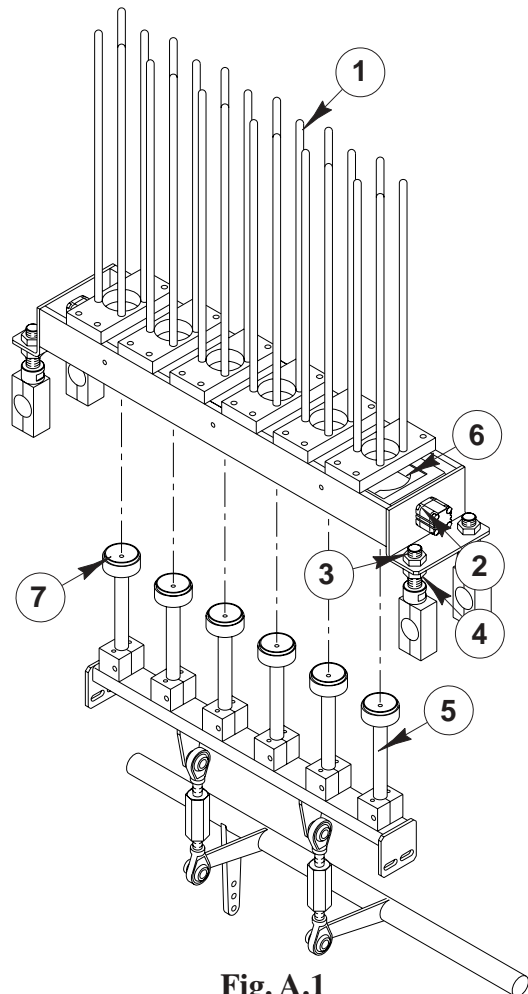

Fig. A.1
The bulk container feeders (*Fig. A.1*), assembled at the end of the machine, serve to deposit bulk containers into the slots in synchrony with the movement of the trays.
The feeder is composed of magazines (*Pos. 1, Fig. A.1*) into which containers must be loaded manually, and of a bulk container dispenser operated by pneumatic cylinders (*Pos. 2, Fig. A.1*).
- By slackening the lock nuts (*Pos. 7, Fig. A.1*) and adjusting the knob (*Pos. 3, Fig. A.1*) you may adjust the height of the magazine holder frame (*Pos. 1, Fig. A.1*); the suction cup trolley's stroke is invariable, so you must adjust magazine height to align the bottom of the containers with the suction cups;
- height of the suction cup holder stems (*Pos. 4, Fig. A.1*) in relation to the decrease in container height.
Changes in bulk container geometry require replacement of the magazines (*Pos. 1, Fig. A.1*), the blades (*Pos. 5, Fig. A.1*) and, possibly, of the suction cups (*Pos. 6, Fig. A.1*).